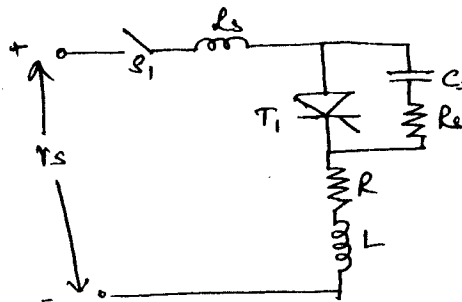

Fig.Q3(b)
- b. For the circuit shown in Fig.Q3(b), $V_s = 200 V$ with load resistance of $R = 5 \Omega$. The load and stray inductances are negligible and the thyristor is operated at a frequency of $f_s = 2 kHz$. If the required $dv/dt = 100V/\mu s$ and the discharge current is to be limited to 100 A. Determine (i) the values of R_s and C_s (ii) the snubber loss and (iii) the power rating of the snubber resistor. (10 Marks)